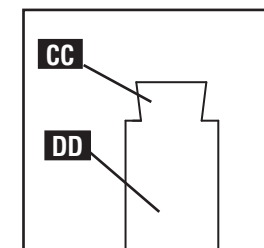

Fig. H22
CENTERING THE TENON: The tenon (CC) (side view at Fig. H22) might need to be centered on its board (DD), as shown. This is purely for aesthetic reasons; it will not significantly affect the strength of the joint. To center the tenon (CC) on the board (DD) (as shown in Fig. H22), the C2 template stops will need to be adjusted. To do this: